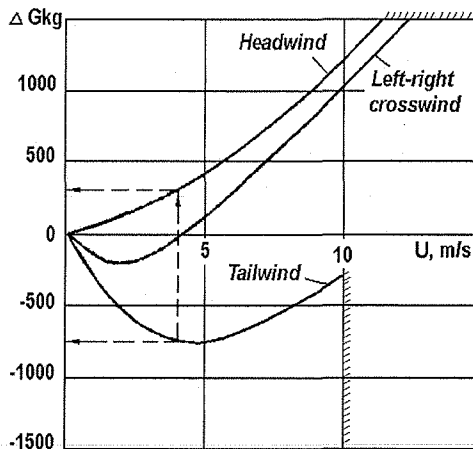

Fig. 1.2. Maximum Weight Increment versus Wind Speed and Direction at Take-off or landing Out of Ground Effect
- (2) The maximum takeoff weight determined by the graphs should be reduced:
- (3) To determine the helicopter maximum weight increment (decrement) under no-wind conditions versus the wind direction and speed use the graphs illustrated in Figs 1.2 and 1.4.